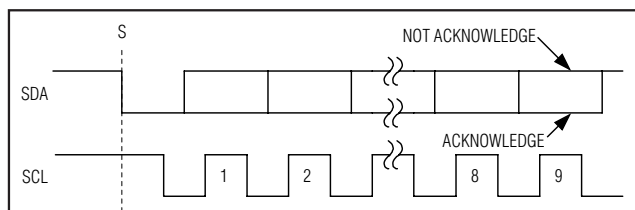

Figure 6. Acknowledge Bits
Data transfers are acknowledged with an acknowledge bit (A) or a not-acknowledge bit ($\bar{A}$). Both the master and the MAX1236-MAX1239 (slave) generate acknowledge bits. To generate an acknowledge, the receiving device must pull SDA low before the rising edge of the acknowledge-related clock pulse (ninth pulse) and keep it low during the high period of the clock pulse (Figure 6). To generate a not-acknowledge, the receiver allows SDA to be pulled high before the rising edge of the acknowledge-related clock pulse and leaves SDA high during the high period of the clock pulse. Monitoring the acknowledge bits allows for detection of unsuccessful data transfers. An unsuccessful data transfer happens if a receiving device is busy or if a system fault has occurred. In the event of an unsuccessful data transfer, the bus master should reattempt communication at a later time.